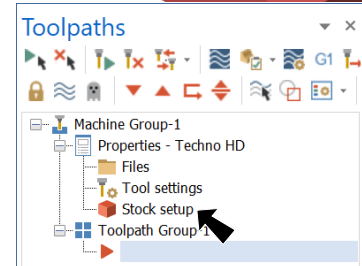

Fig. 1
ager, **Fig. 1** on the Machine tab , click Mill  > **Default** from the menu.
Step 4. Expand **Properties**  (click +) in Toolpaths Manager and click **Stock setup** , **Fig. 1**.